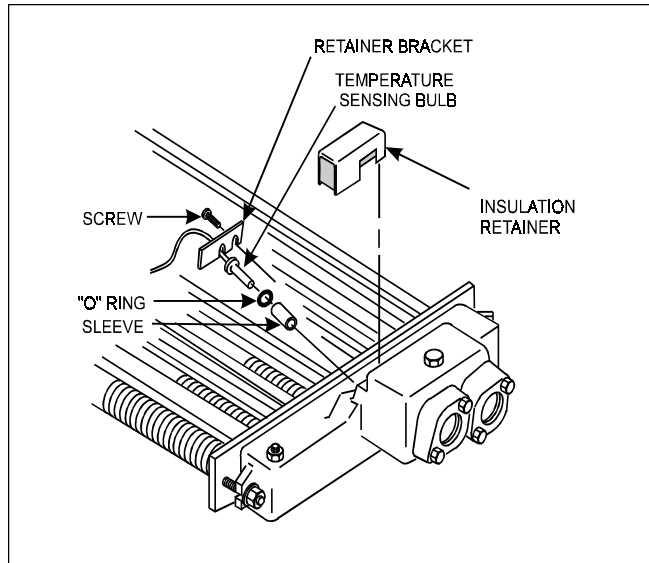

Figure 14. Temperature sensing bulb.
6. Remove the fiberglass insulation and insulation retainer covering header sensors (see Figure 14).
13. Loosen the screw securing the temperature sensing bulb retainer bracket. Slide the retainer bracket off the bulb flange and remove the bulb from the header (see Figure 14). Pull pressure switch tube through vestibule cover hole first, then pull thermostat bulb assembly through same hole.